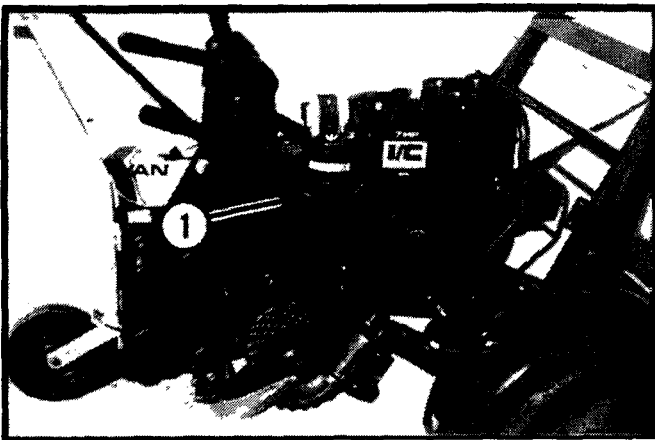

Figure 16
4. Tip the trailer until the top mounting holes on the mounting masts are aligned with the mounting holes in the sod cutter's A-frame. Slide the locking shaft, from the right side, into place and secure with the locking pins (See Figure 16).